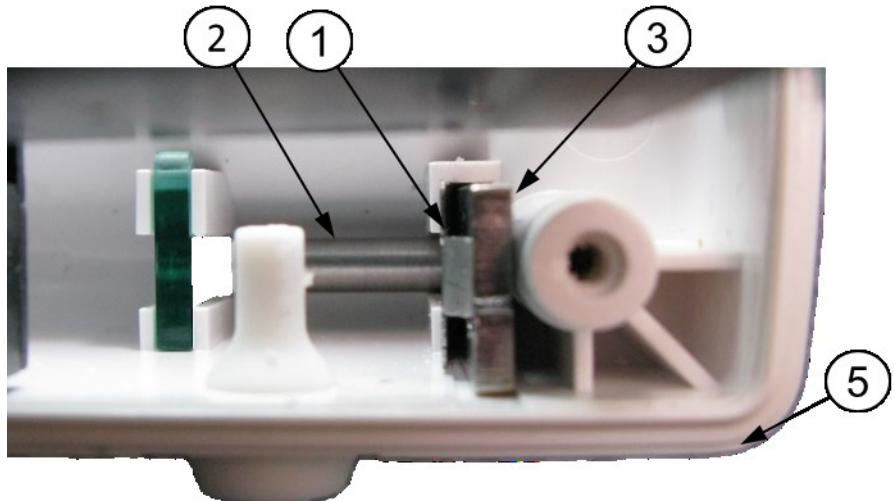
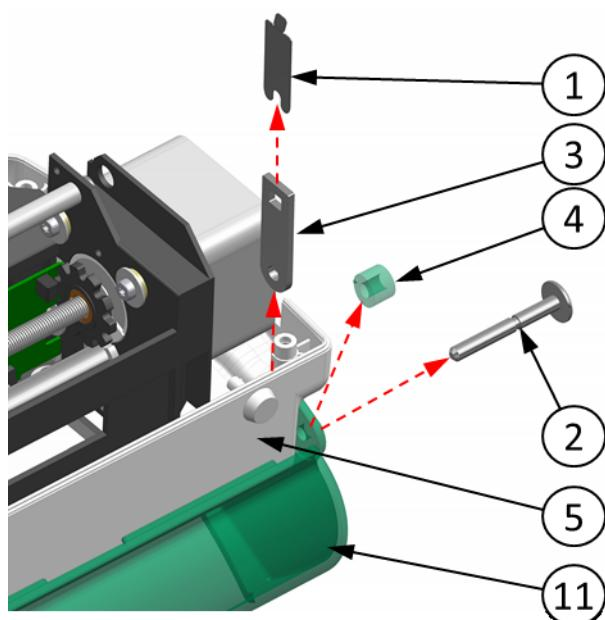
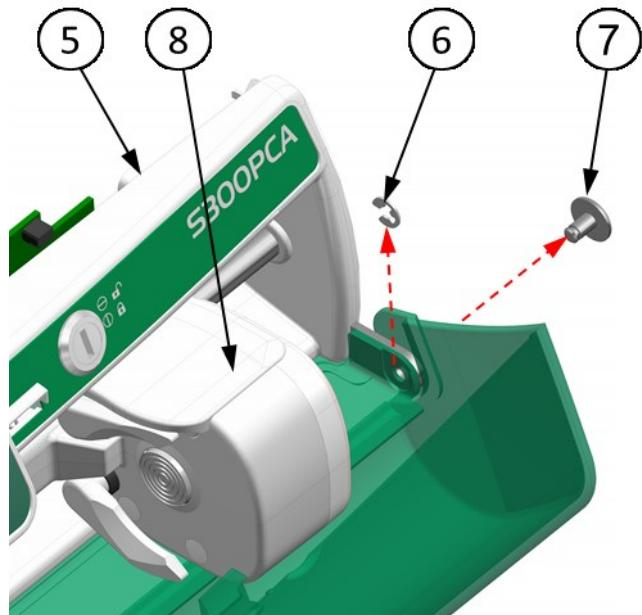

Fig. 82 Installed Left bolt cover PCA
Fig. 83 Left bolt cover PCA removal/installation
Fig. 84 Right bolt cover PCA removal/installation
2. Place the **TB-5** torx screwdriver between a **Bearing PCA lock cover (1)** and a **Bearing PCA (3)** in the gap pointed by a reference arrowhead number **1** in the **Fig. 82**. Fold the **Cover (1)** back. Next by using the **TB-6** flat-nosed pliers pull the **Cover (1)** out as indicated on the **Fig. 83**.
3. By using the **TB-5** screwdriver pry and pull out the **Left bolt cover PCA (2)** from the **Front case (5)** in the direction pointed by a red arrow on the **Fig. 83**.
4. By using the **TA-15** curved tweezers pull out the **Bearing PCA (3)**.
5. Remove the **Sleeve PCA (4)** as shown in **Fig. 83**.
6. Move the **Pump stem end (8)** back from the **Front case (5)** wall according to p. 2 in the chapter **13.7.1** (p. 103).
7. By using the **TA-15** curved tweezers remove the **Circlip 3,2 (6)**.
8. By using the **TB-5** screwdriver pry and pull out the **Right bolt cover PCA (7)** as indicated on the **Fig. 84**.
2. Assemble the **Right bolt cover PCA** (7) and protect it by the **Circlip 3,2** (6). Perform the assembly opposite to the direction indicated by red arrow in **Fig. 84**.
3. Assemble the **Bearing PCA** (3) in the direction opposite towards the one pointed by red arrows on the **Fig. 83**.
4. Put the **Sleeve PCA** (4) between the **PCA cover** (11) and the **Front case** (5) and then assemble the **Left bolt cover PCA** (2). Perform the assembly opposite to the direction indicated by the red arrow in **Fig. 83**.
5. Protect the **Bearing PCA** (3) by pressing the **Cover bearing PCA lock** (1) to the position indicated on the **Fig. 82**.
2. Open the **PCA cover (1)** and put the **Pump stem end (2)** off the **Front case (3)** wall according to p. 2 in chapter 13.7.1 (p. 103).
3. By using the **TA-15** curved tweezers disassemble the **Circlip 3,2 (6)** and remove the **Right bolt cover PCA (7)** as indicated on the **Fig. 84**.
2. Assemble the **Right bolt cover PCA (7)** and protect it by the **Circlip 3,2 (6)**. Perform the assembly opposite to the direction indicated by the red arrow in **Fig. 84**.